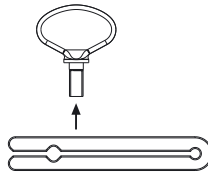

Fig. 7
- Dismount the extraction tool, see Fig. 7.